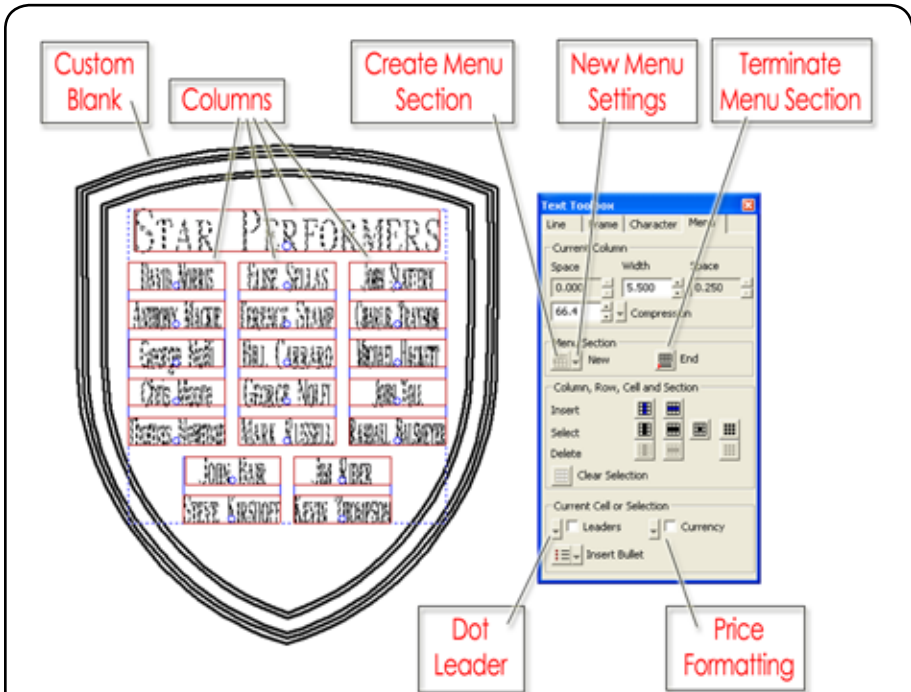

Fig. 3 - The **Menu Board** feature provides easy layout for an award with assorted name columns. In addition, the plate size has been set to a custom blank shape.
- ❑ **Easy Menu Board Creation** - As part of the new Text Compose interface, interactive tools have been introduced for constructing menu boards, which can also be used to align trophy entries with ease (Fig. 3).
- ❑ **Realistic Engraving Blanks** - As opposed to a simple rectangular plate size, set a custom blank that has unusual shapes or contours, such as trophies or atypical door plates (Fig. 3).